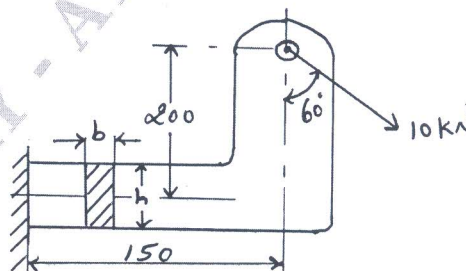

Fig.Q2(b)
b. A mild steel bracket shown in Fig.Q2(b) is subjected to a pull of 10kN. The bracket has a rectangular cross-section whose depth is twice the width. If the allowable stress for the material is 80N/mm^2 , determine the c/s (cross section) of the bracket.